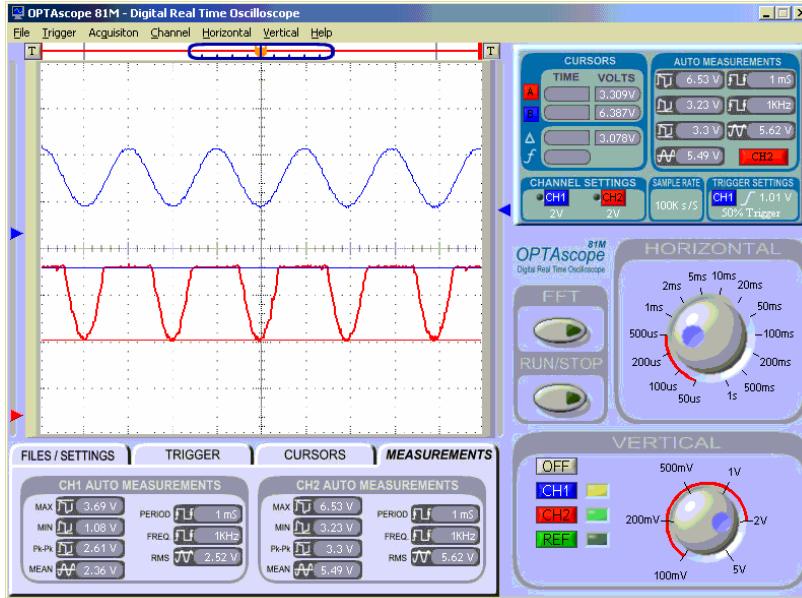

Figure 8-13: Output signal with a gain of 3, heavily clipped
When you up the gain to 3 ($R_i = 1\text{ k}\Omega$ and $R_f = 2\text{ k}\Omega$) your signal will most likely be heavily clipped, as shown in Figure 8-13. We won't calculate the gain, but the signal is worth examining anyway since it illustrates a common phenomenon in amplifier design. Clipping happens when the gain tries to make an output signal that is outside the dynamic range the amplifier. This type of distortion is undesirable if the goal is accurate sound reproduction, for example. However, this type of signal distortion is frequently found in rock music.
- √ Observe your heavily clipped signal, as shown in Figure 8-13.
How healthy is your battery? We measured the clipped signals for 3 different 9 V batteries, and had readings of 8.01 V, 7.29 V and a low of 6.53 V, shown in Figure 8-13.